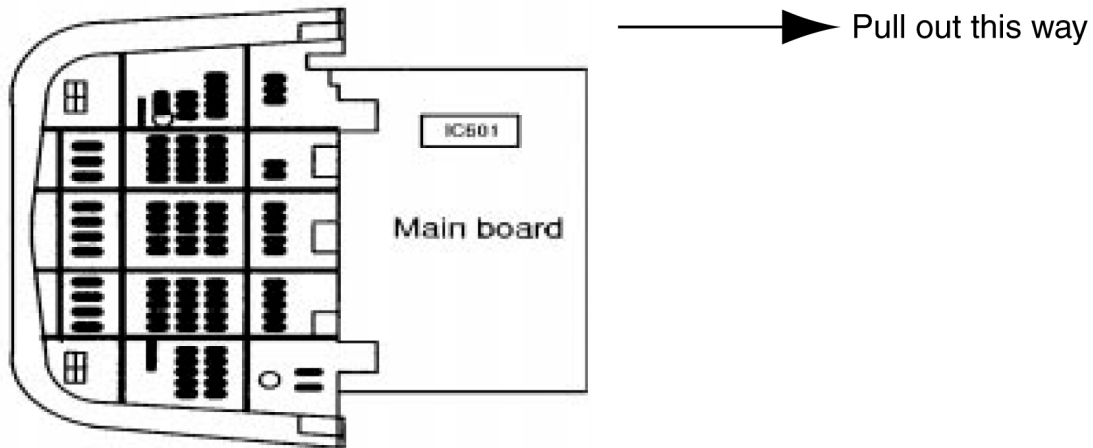

Fig. 7
2. Stand the TV set as shown in fig. 7
3. Remove the A-Board from the TV set by pulling the main board out as shown in figure 7.